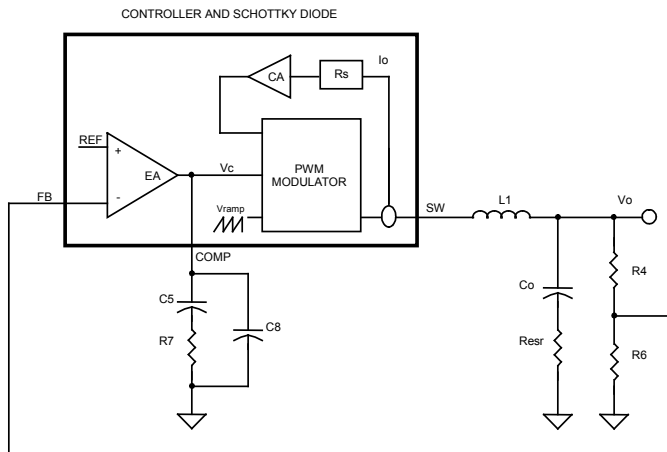

Figure 7. Block diagram of control loops
The block diagram in Figure 7 shows the control loops of a buck converter with the SC4524C. The inner loop (current loop) consists of a current sensing resistor ( $R_s=5.5m\Omega$ ) and a current amplifier (CA) with gain ( $G_{CA}=18.5$ ). The outer loop (voltage loop) consists of an error amplifier (EA), a PWM modulator, and a LC filter.
For a converter with switching frequency  $F_{SW}$ , output inductance  $L_1$ , output capacitance  $C_o$  and loading  $R$ , the control ( $V_c$ ) to output ( $V_o$ ) transfer function in Figure 7 is given by: